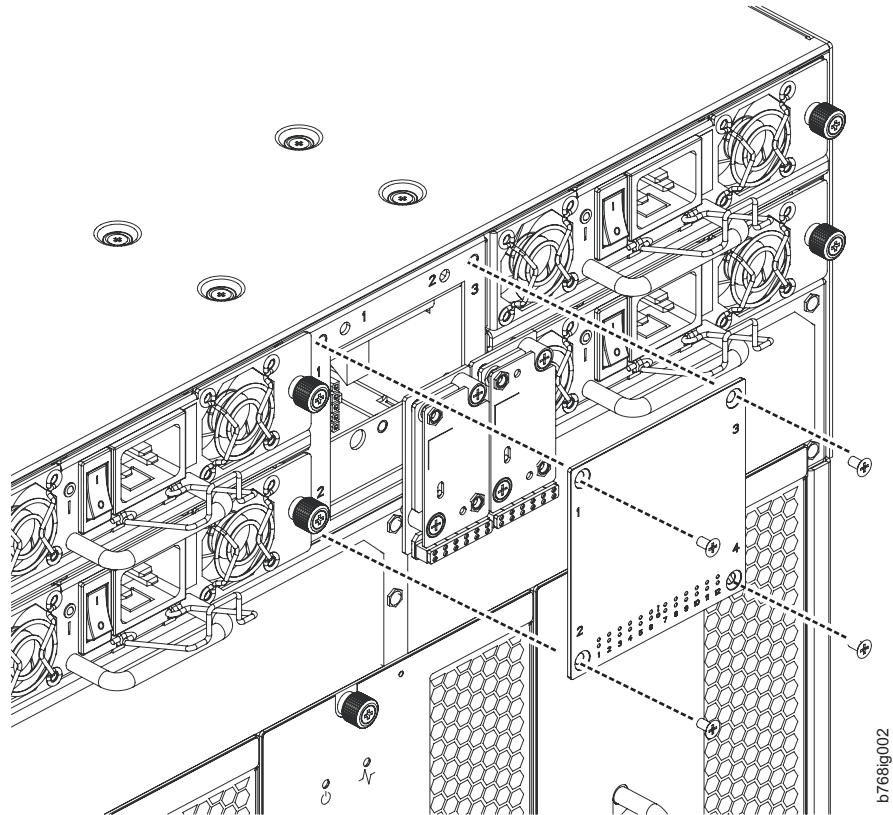

Figure 32. WWN bezel and card removal and installation
7. Remove the screws from the WWN bezel (see Figure 32). Pull the bezel away from chassis and set it aside. The WWN cards are visible.
6. Install the WWN bezel. Orient the bezel on the chassis (see Figure 32 on page 91). Insert and tighten the screws.